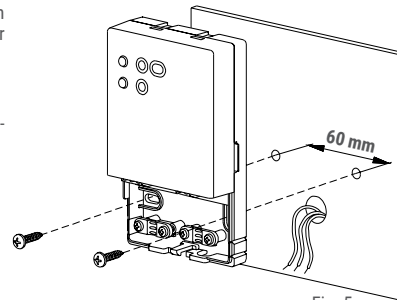

Fig. 5
- 5 Fix the plate onto the wall using the two screws housings with a 60 mm centre-to-centre distance (use the screws and/or dowels supplied) - Fig. 5.